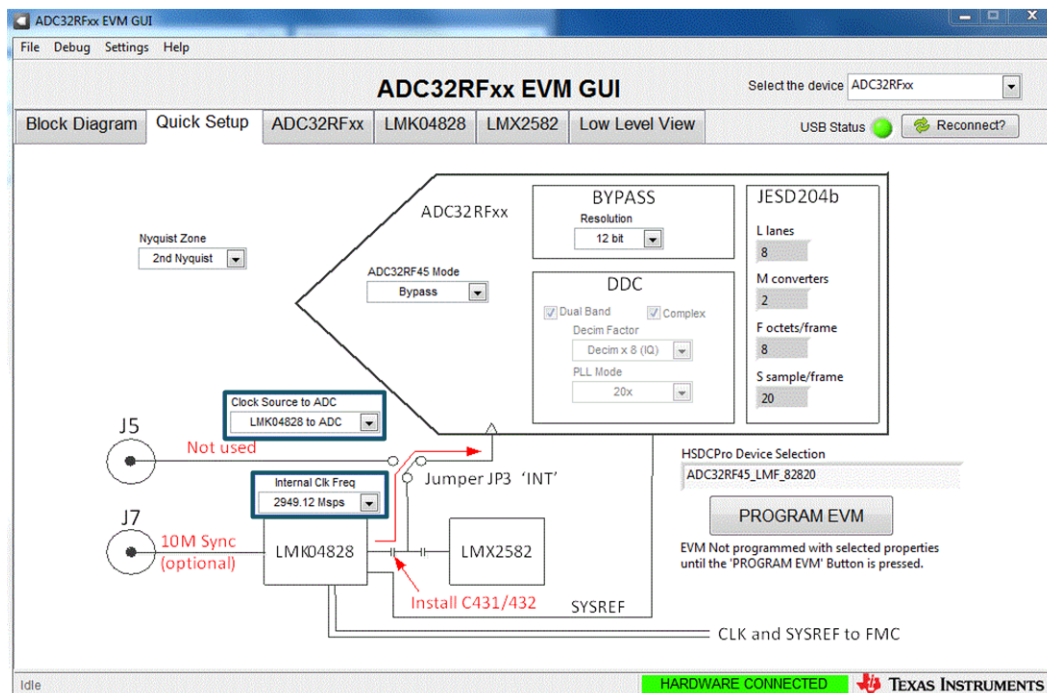

Figure 35. ADC32RFxx EVM GUI With LMK Clock Configuration
2. All but one step to configure the device in this mode are the same as previously described in Section 3.2. The only step different is the choice of *Clock Source to ADC*. That step is to be selected as shown in Figure 35. The rest of the steps in Section 3.2 must be followed.